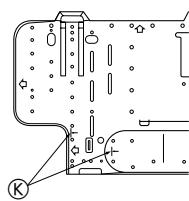

Fig. 3-10
- Ⓐ Mount board (wall-fixing bracket) ①
3.4. Preparation for piping connection (Fig. 3-10)